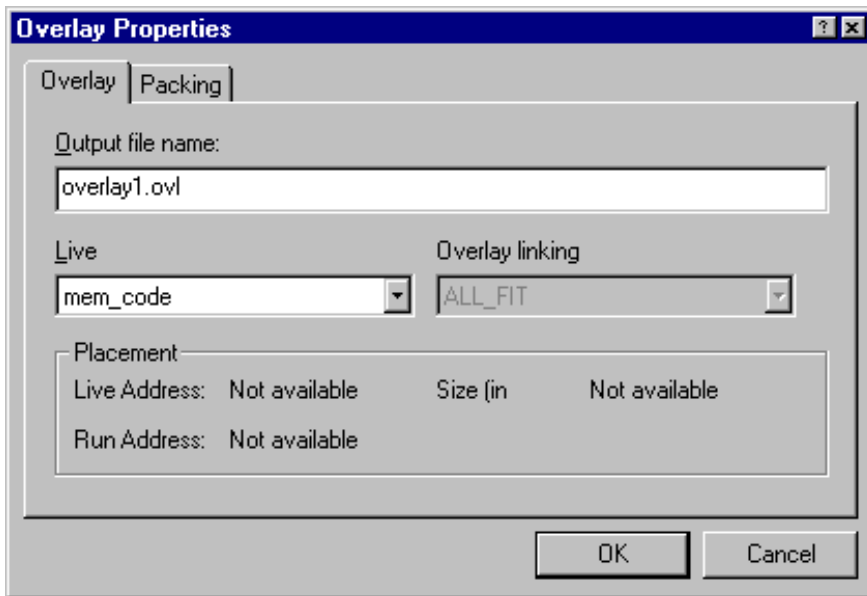

Figure 4-52. Overlay Properties Dialog Box – Overlay Tab
2. Choose **Properties** and click on the **Overlay** tab (Figure 4-52)